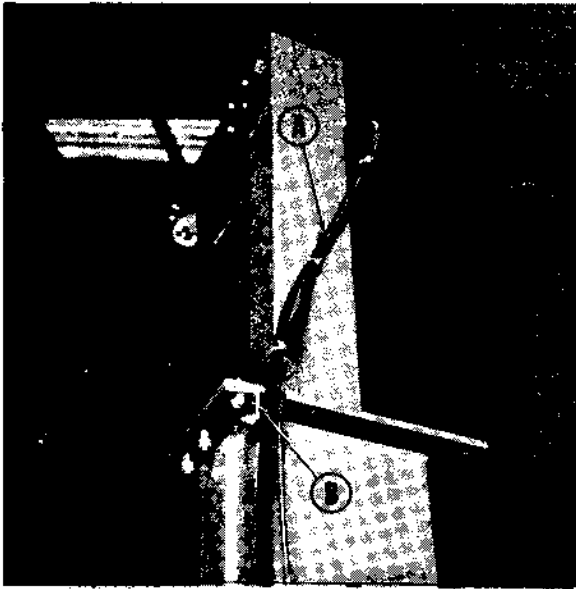

Fig. 54
44. Run hose and clamp into hole one half way down vertical member (See Fig. 54).
45. Attach angle to hole in post top as before on opposite post. This attaches in hole nearest car's rear. Clamp hose to this angle with clamp, screw, nut, and lockwasher. (See Fig. 54).